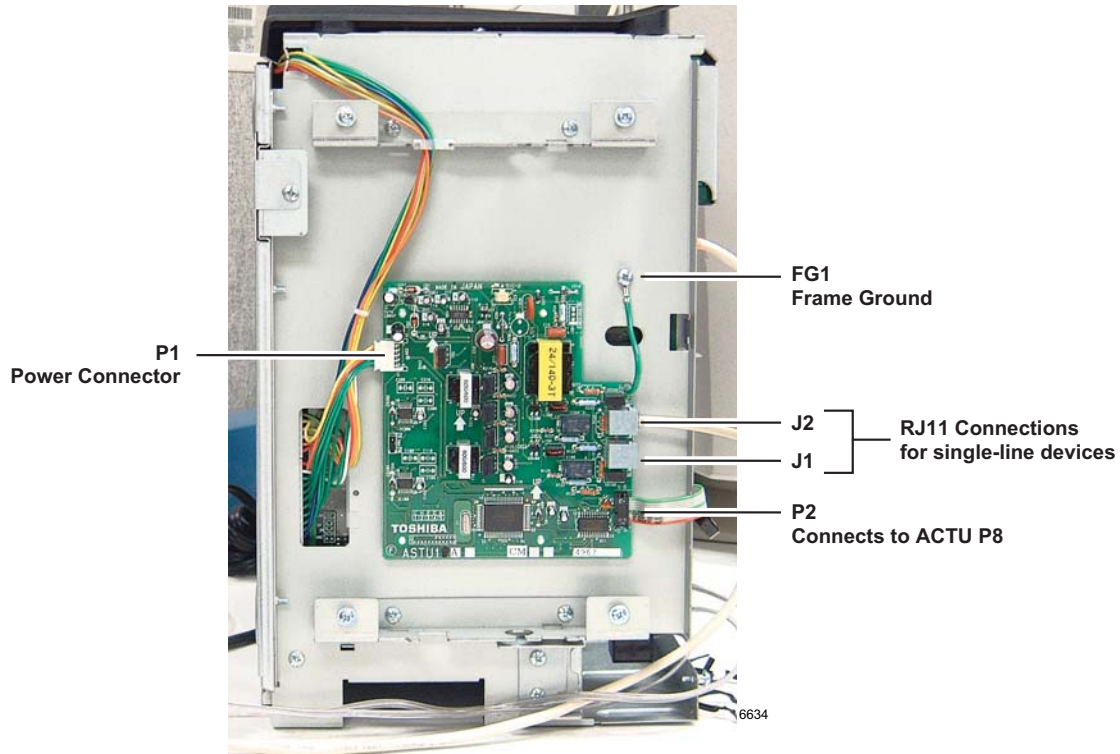

Figure 6-1 ASTU Controls and Interface Connectors
3. Refer to Figure 6-1 and Table 6-2. Make sure the SW2 switch is in the “Mu law” position for the U.S. and Canada.